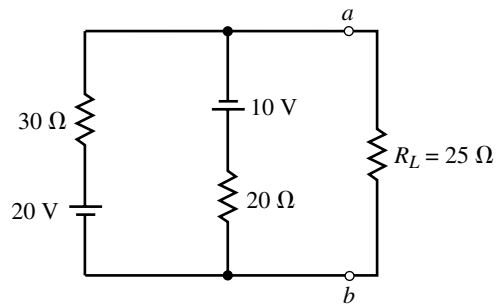

FIGURE 9-103
- 45. Use Millman's theorem to find the current through and the power dissipated by R_L in the circuit of Figure 9-103.